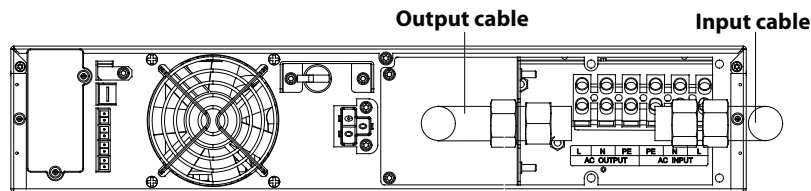

Figure 18: I/O Cable placement
4. Connect the input power source line, neutral and ground cables to the input line (L), neutral (N) and ground (PE) terminals on the UPS I/O terminal block and tighten the fixing screws (see Figures 18 and 19).
5. Connect the UPS output line, neutral and ground cables to the output line (L), neutral (N) and ground (PE) terminals on the UPS I/O terminal block and tighten the fixing screws (see Figures 18 and 19).